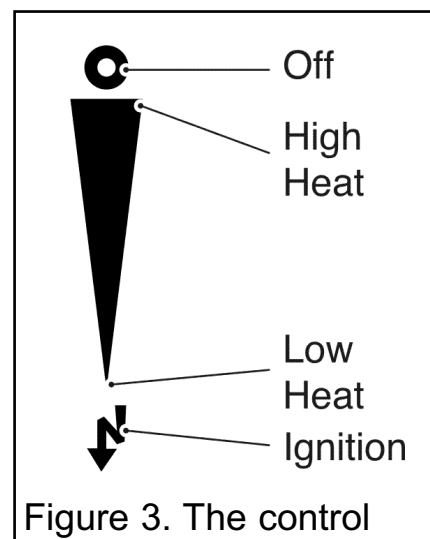

Figure 3. The control
The slide control is shown in figure 3.
3. If low heat is required, release the control knob. The control knob will automatically spring up to the low heat position shown in figure 3 (See note i below). If for any reason the slider control does not spring up, raise the slider to the off (O) position (Topmost position) and contact your installer. Do not use the fire until the problem has been rectified.
4. For a higher heat level slide the control knob upwards. The burner flames and heat output will gradually increase until the control knob reaches the high heat position shown in figure 3. When the control knob reaches the high heat position you will feel a check to its movement. **Do not slide the control knob above the high heat position unless you want to turn the fire off** (See note i below).